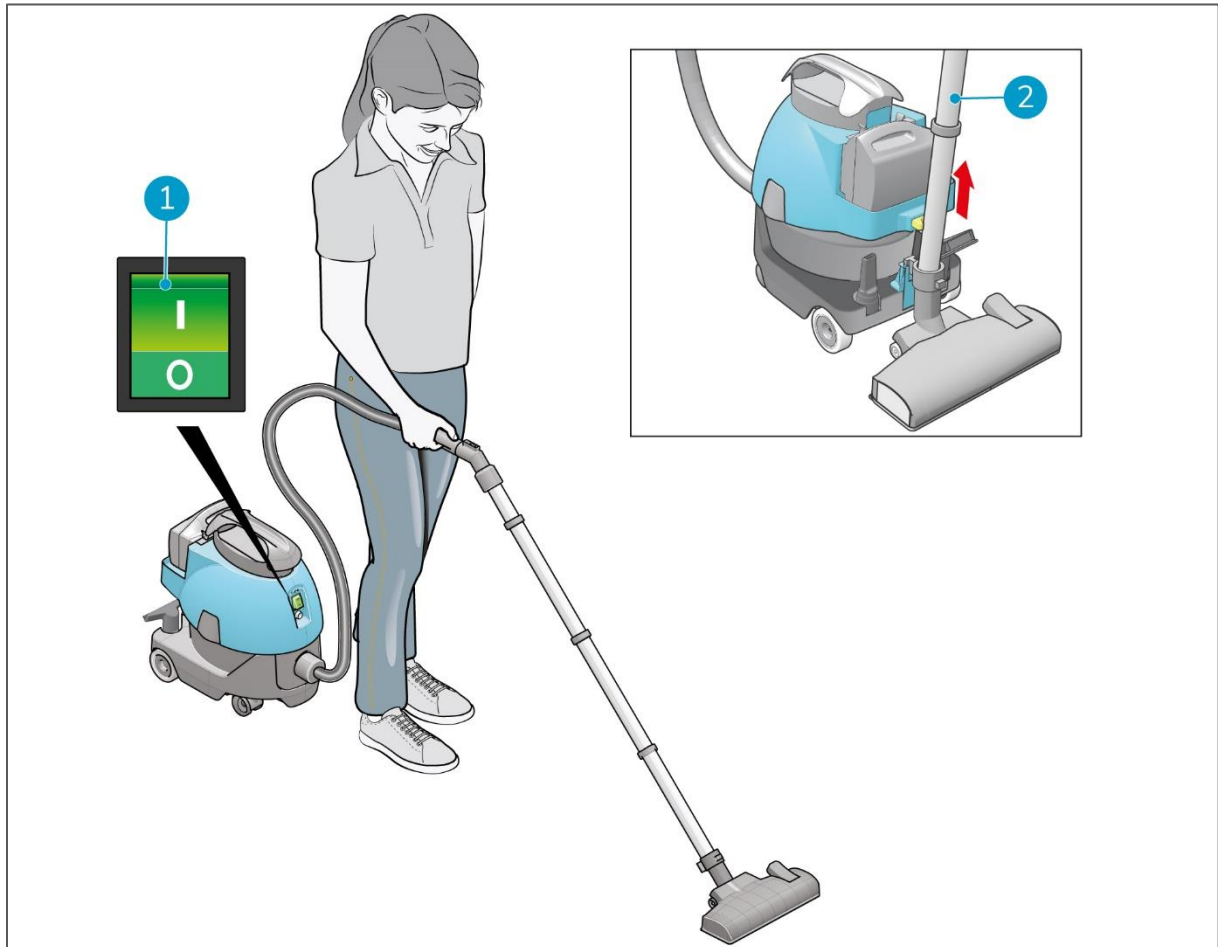

Figure 18
1. Press the ON/OFF switch (Figure 18, pos 1) to start the i-vac 5B®. The green light in the ON/OFF switch will go on.
2. Take the wand from the holder (Figure 18, pos 2).
1. Press the ON/OFF switch (Figure 18, pos 1) to switch off the i-vac 5B.
2. Place the wand back in the holder (Figure 18, pos 2).